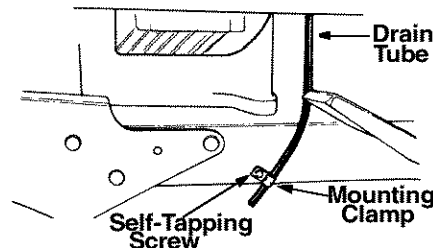

Figure 18
- Route the battery drain tube (if equipped) over to the left side of the tractor. Loosen the self-tapping screw which secures the mounting clamp. See Figure 18. Slip the end of the drain tube into the mounting clamp. Tighten the self-tapping screw to secure the clamp. Do not overtighten which could collapse the drain tube.